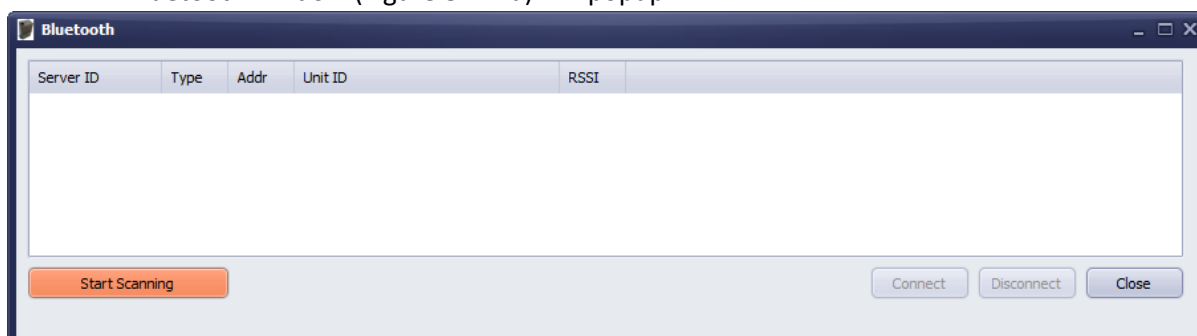

Figure 8.1.4.a: KG/KH-RTU frontend BLE empty scan window.
2. A Bluetooth window (Figure 8.1.4.a) will popup.